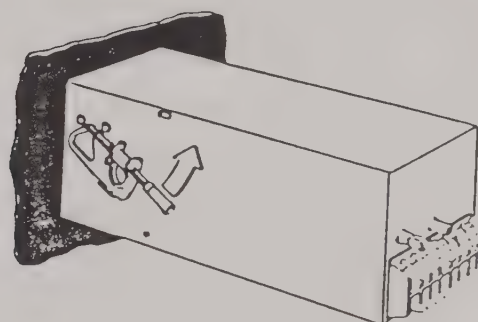

Figure 4-2b. Fixed Mounting
- (3) Reclip the screw clamps to the instrument (figure 4-2b.), either on opposite sides or at the top and bottom as appropriate.
- (4) Gently tighten the clamping screws with a long screwdriver to secure the instrument in the panel.